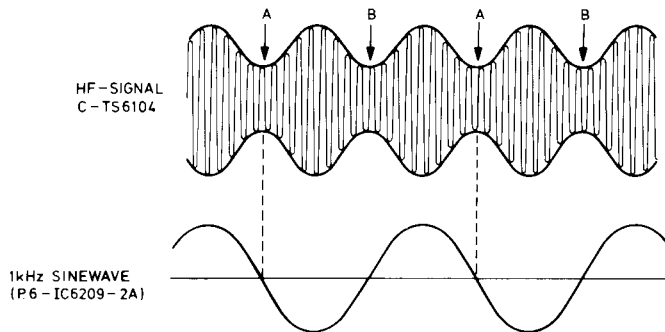

Fig. 10
- Turn screw C clockwise until the grating lens has approximately reached the extreme position and the oscilloscope displays the radial difference signal for the 2.5 and 1.66  $\mu\text{m}$  track pitch (see Fig. 10). If necessary, search for this signal by manually varying the position of the objective slide by rotating the gear wheel.